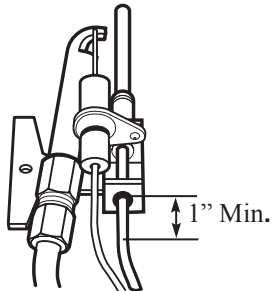

Figure 5
10. INSPECT THERMOCOUPLE: **DO NOT** bend the thermocouple within 1" of tip when installing, as this may damage the thermocouple. See Figure 5.